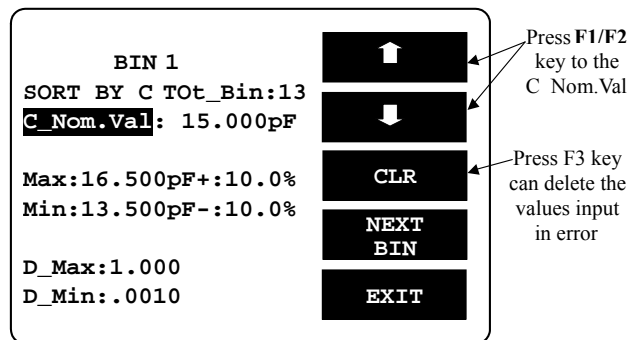

Figure 8-16
- Press **↓** key. Please refer to Figure 8-16 below.